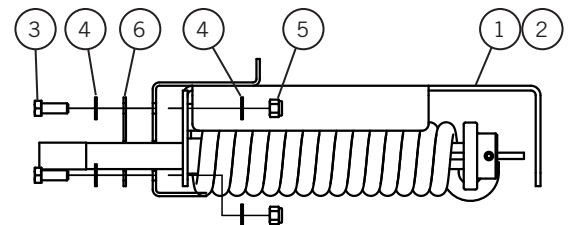

Figure 22-3
- 7) **Figure 22-3.** Bolt spring assembly housing to the dump body using 3/8-16 x 1 1/4 hex bolt (3), 3/8 flat washer (4), and 3/8-16 nylon hex nut (5). If optional plate aluminum cover (6) is used, place it on the outside of the dump body before bolting in place.